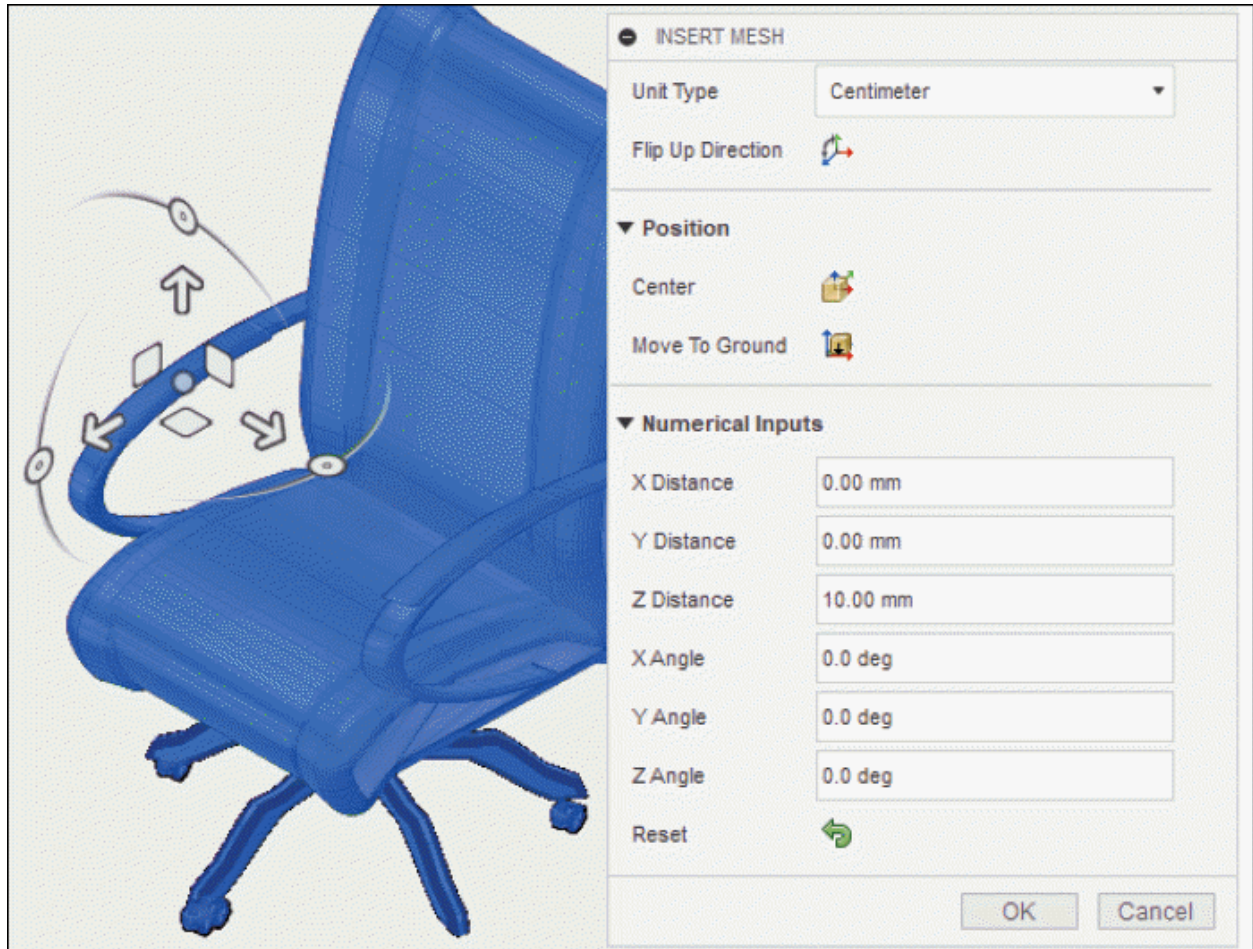

Figure-27. INSERT MESH dialog box
- Select the file and click on **Open** button of **Open** dialog box. The file will be added in application window along with **INSERT MESH** dialog box; refer to Figure-27.